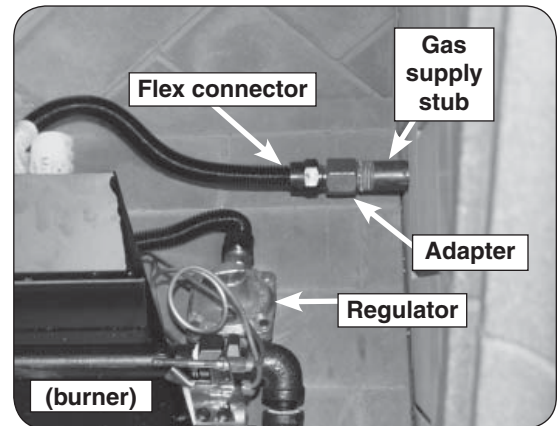

Fig. 11-1 Connect burner to gas supply
2. Locate the gas-supply stub inside the fireplace and remove the cap, if attached (reference Fig. 11-1).
4. **Be sure gas to the fireplace is off.** Remove the adapter that is loosely connected to the flex connector (coming off of the burner system). Attach the adapter to the gas-supply stub using a pipe compound resistant to all gasses. Tighten securely. Then attach the open end of the flex connector to the adapter. Tighten securely (see Fig. 11-1).